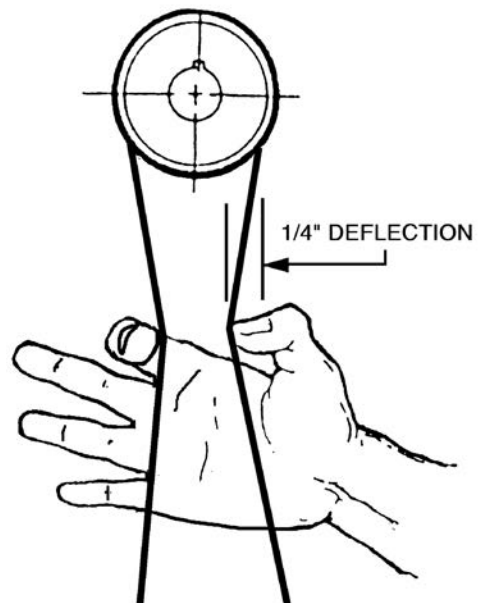

Figure 11
3. Check belt tension. Proper tension is obtained when there is approximately 1/4" deflection of the center span of the pulleys using light finger pressure (Figure 11).